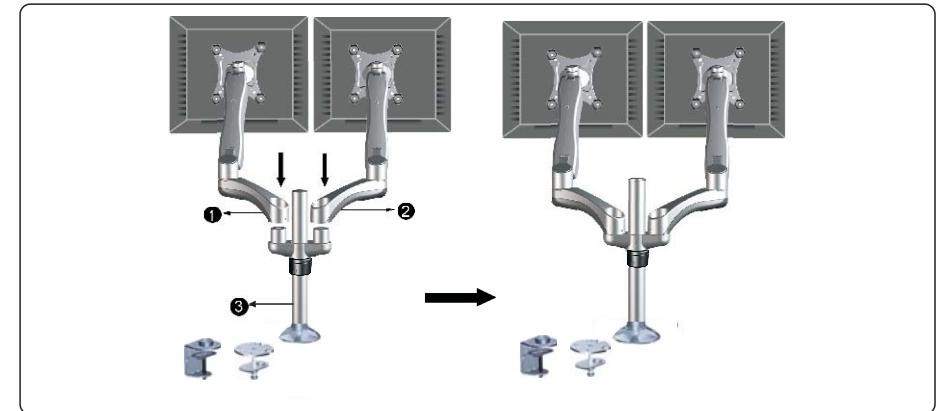

Figure 3-1
1. Attach the Articulating Arm (1) Assembly to the DEK by inserting the Articulating Arm Assembly down from top onto the DEK. (See Figure 3-1)